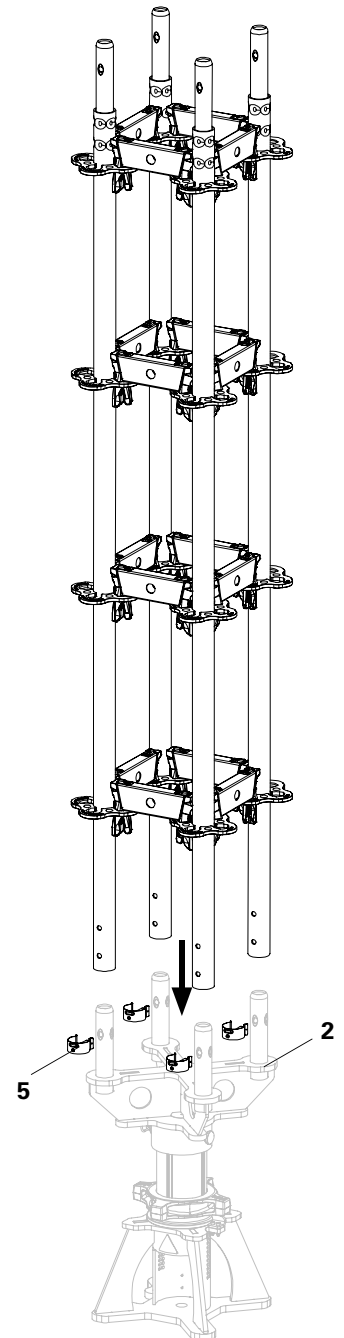

Fig. A1.04
3. Position the unit on the Spigots of the Connecting Plate (2). (Fig. A1.04)
5. Tightly connect Standards UVR with Locking Pins (5).